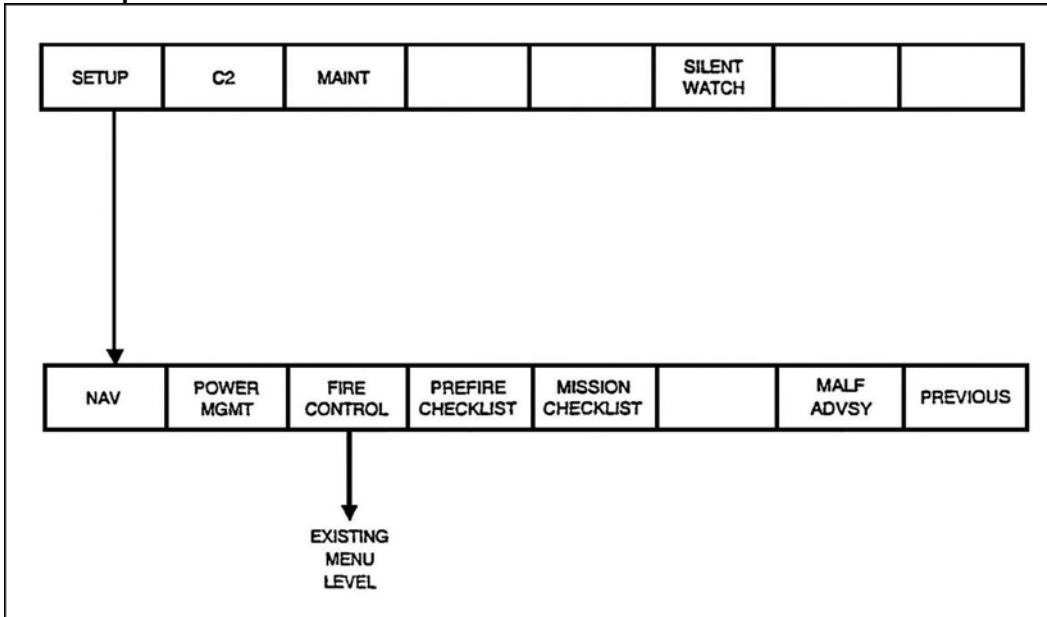

Figure 11. CTD menu structure.
- (1) Select SETUP using the CTD soft key (Figure 11).